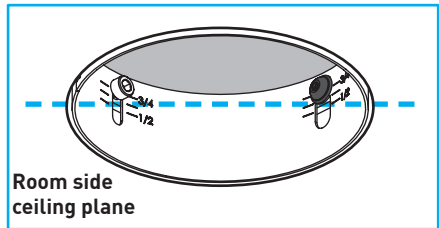

Fig. 11
**Important:** Collar must not protrude beyond ceiling plane (*Fig. 11*).